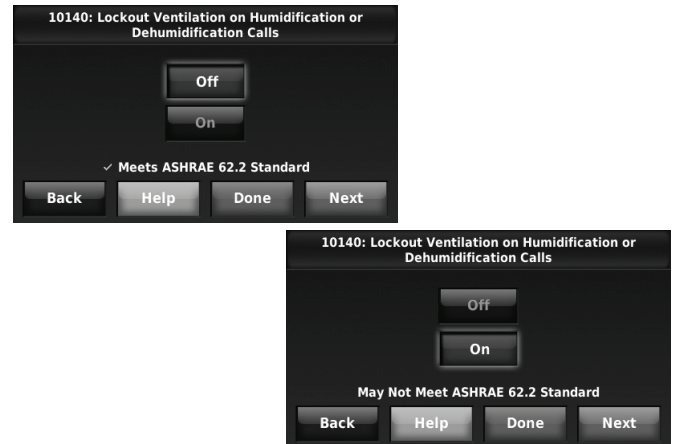

Fig. 262.
10. Select whether to lockout ventilation on humidification or dehumidification calls. This feature is used to help reach the user's desired humidity level by not allowing the ventilation equipment to run during a call for humidification or dehumidification. The thermostat will indicate whether this meets or may not meet the ASHRAE 62.2 Standard or the Percent On Time setting. See Fig. 262.